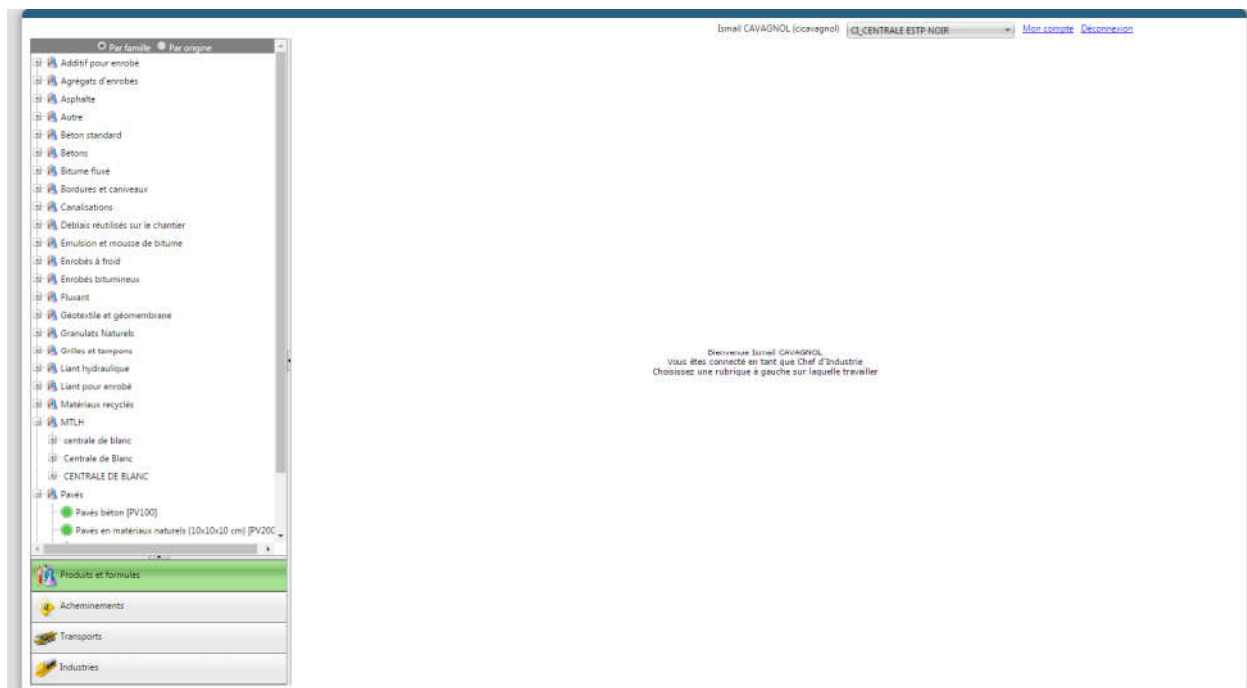

Figure 75 – CI Profile Home Page
Once the access email has been received, the Industry Manager (CI) can choose his password and log in again by entering the login that ACEU has assigned to him. He is therefore the head of an industry of an EU. When you arrive on the home page, you will be presented with 4 tabs on the left side of the screen (Figure 75).